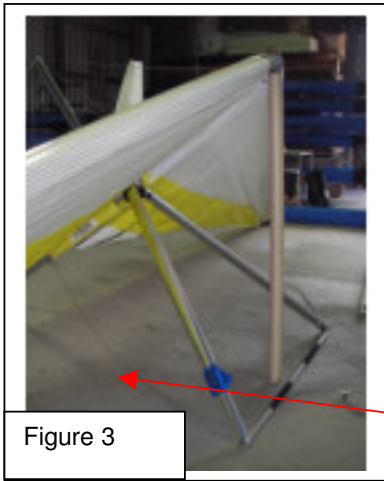

Figure 3
- b. suitable support post; cut support post to 1800mm and place under nose channel (making sure wing can not move or blow off support post). Bottom rear wires should be slack). See figure 3.